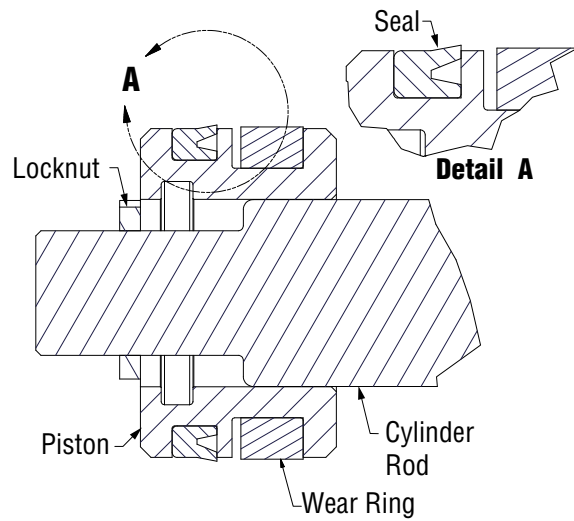

Figure 5-11, Piston Seal
2. Note the direction of the seal on the piston. Improper installation will result in poor performance. The cupped side or O-ring side of the seal should be facing the gland cap. (Figure 5-11)